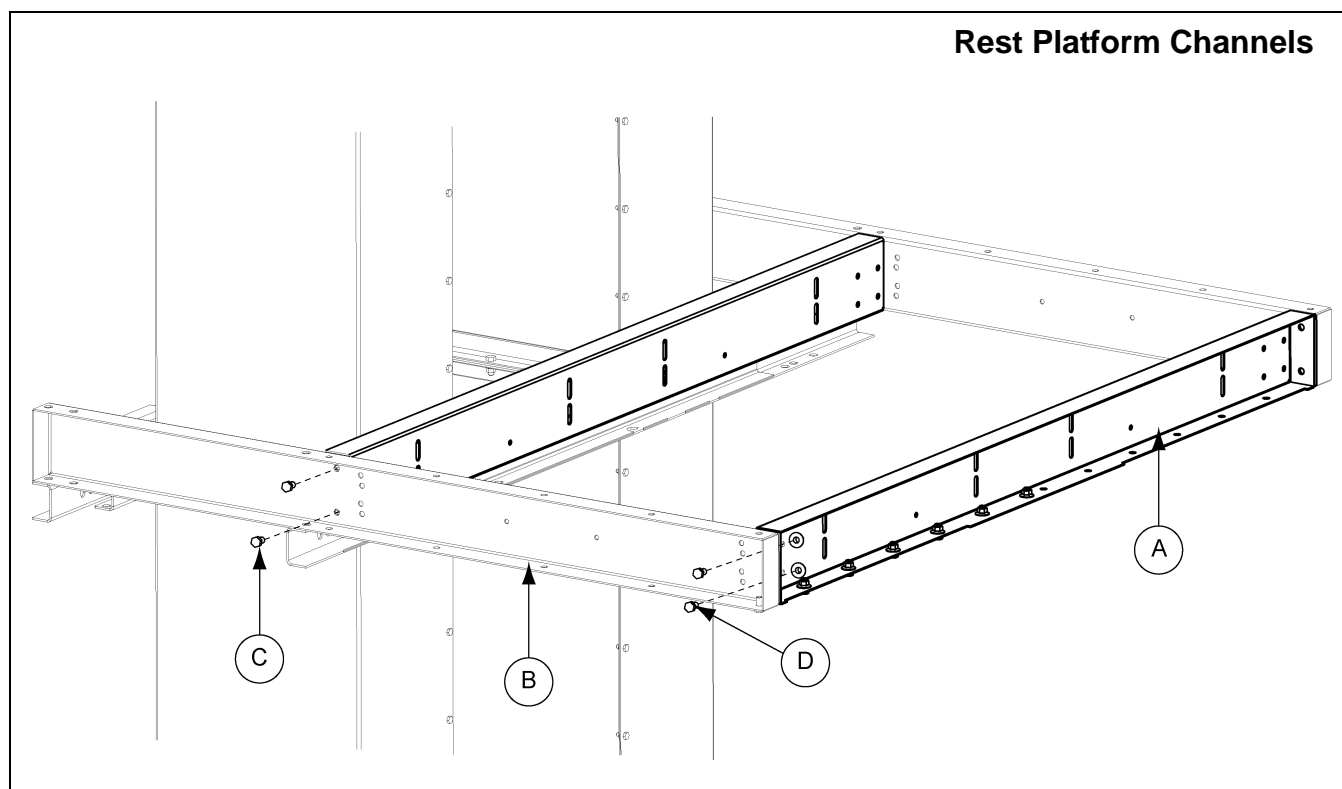

Figure 7G Rest Platform Cross Channel to Rest Platform Mounting Channels
1. Place the rest platform cross channels between the rest platform mounting channels and connect those using 3/8" x 3/4" hex bolts. (See Figure 7G.)